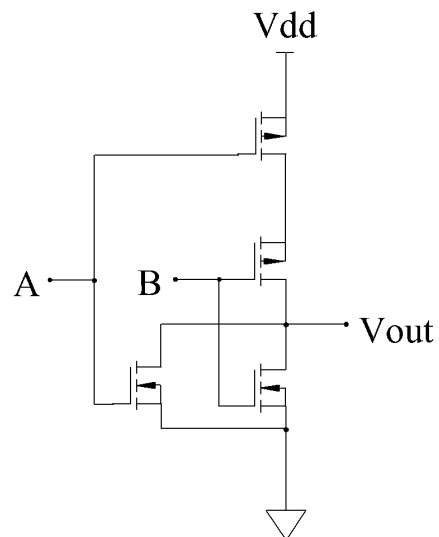

Figure 4
To understand a MOSFET transistor operation as a switch in a logic circuit, you will use the circuit shown in Figure 4. In this section of the lab, you will measure the output voltage of an inverter constructed from MOSFET transistors. During the measurement of the voltages associated with this circuit, you are interested in the threshold voltages where the transistors switch and  $V_{out}$  vs.  $V_{in}$  is equal to -1.
The E-MOSFET can be used to implement a NOR gate as shown in Figure 4. The operation of the circuit follows the digital logic for a standard NOR gate.
6. Build the circuit shown in Figure 4.
**Schematic Figure 4:**